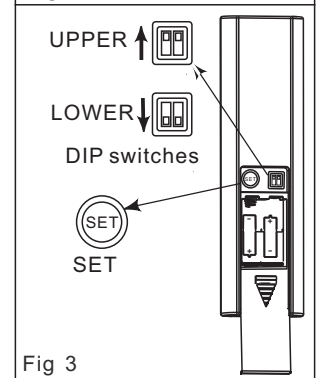

Fig 3
4. Use hex key to install fan blades. (Figure 3)
Your fan with the remote controller is ready to use. (Fig. 3)
Learning mode: To control the fan with a specific remote transmitter, choose this mode by setting the DIP (code) switch to LOWER position within 5 meters distance from the fan. Restore power to your fan. Next, press and hold the "SET" bottom for about 4 seconds until the buzzer inside of the receiver sounds. Your remote controller is ready to operate the fan. You must press the "SET" button within 1 minute of restoring power to the fan. (Fig. 3)